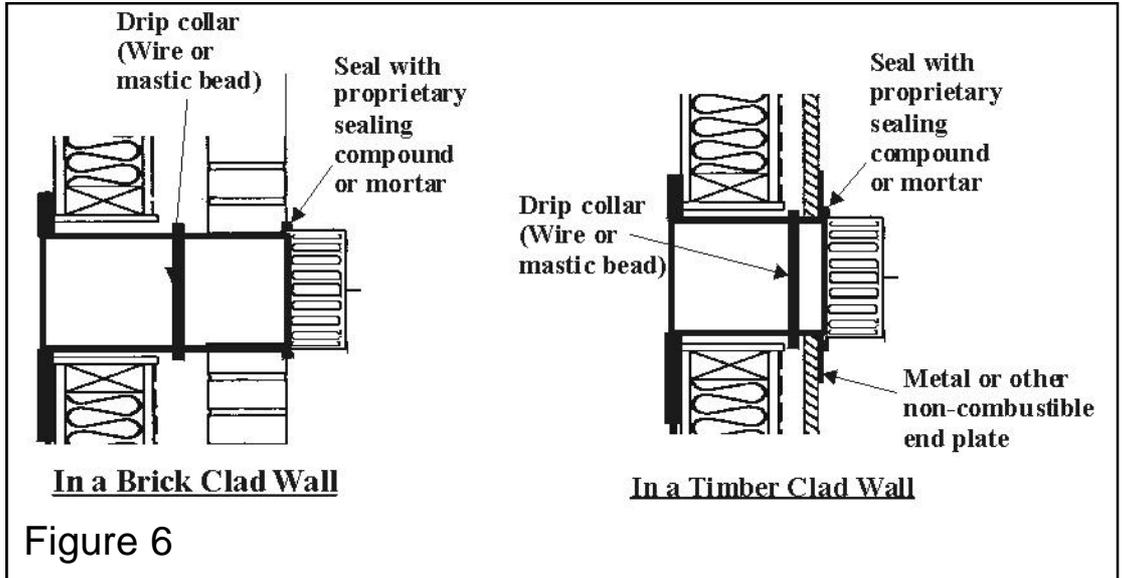

Figure 6
- **Timber frame buildings:** Fit a drip collar round the flue positioned so that it will be located in the centre of the wall cavity - see figure 6. The drip collar can be made by wrapping a non-corrosive wire round the flue or moulding a bead of mastic round the flue.
on the outside of the wall. The plate must be concentric with the flue and at least 254mm (10in) square or diameter. See figure 6.